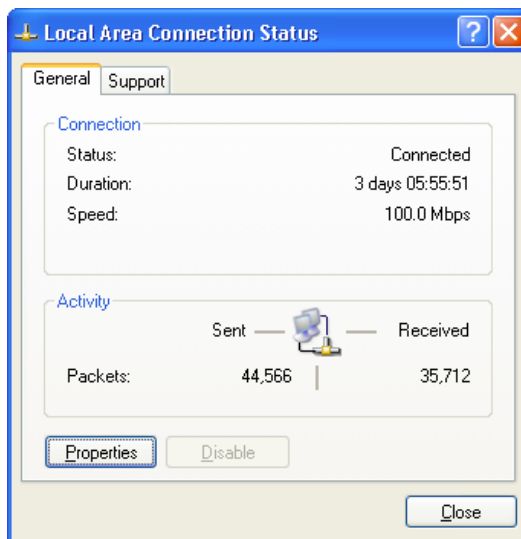

Figure 4. The Local Area Connection Status Dialog
2. In the panel labeled **LAN or High-Speed Internet**, double-click the **Local Area Connection** icon. The **Local Area Connection Status** dialog box appears, as shown in Figure 4.
5. Enter values for the IP address and subnet mask to match those shown in Figure 4. Leave any remaining fields blank. In this example, an IP address of 192.168.1.21 and a subnet mask of 255.255.255.0 are being assigned to the PC. These values place the PC on the same network as the ZPAK II unit, and do not conflict with the IP address of ZPAK II.